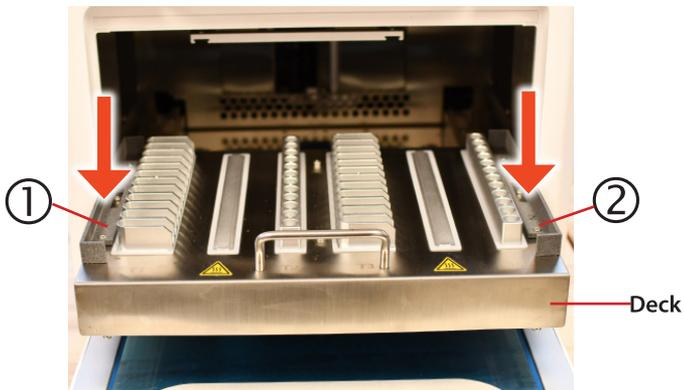

Figure 3
Slide out the deck and place the tray supports as seen in Figure 3. Place the numbered ① support on the left side and the numbered ② on the right side of the deck.